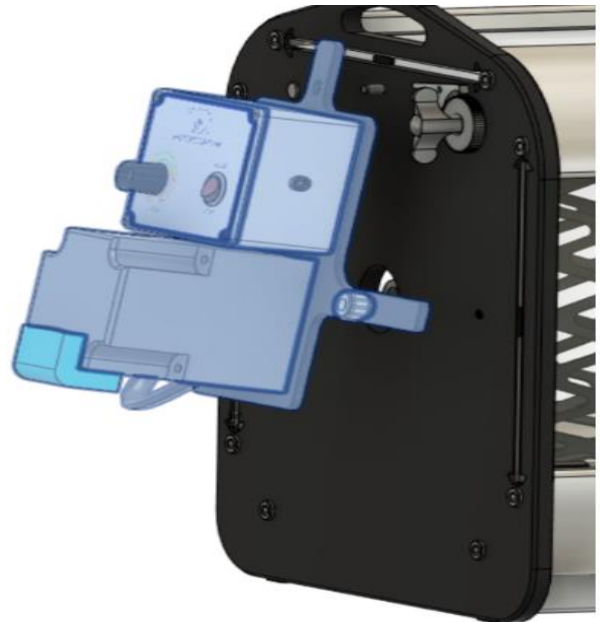

Fig. 18
9. Rotate the bottom of the motor assembly away from the back plate and then lift up motor assembly and screw it to the rear plate (see Fig.18).